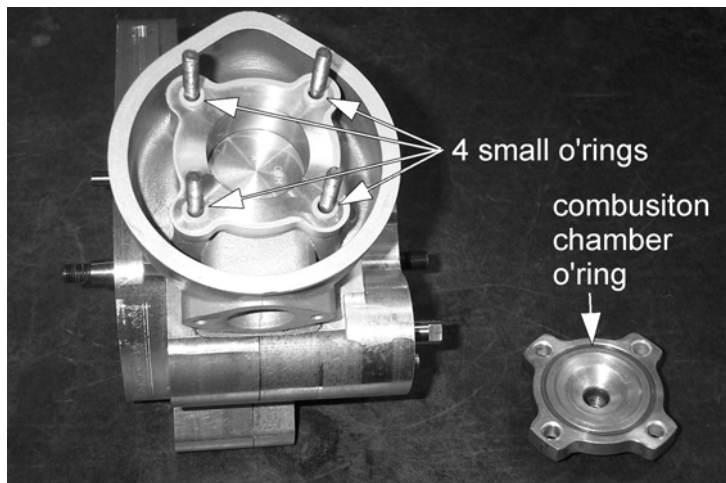

Figure 30
23. Install the cylinder studs and o-rings as shown in figure 30.